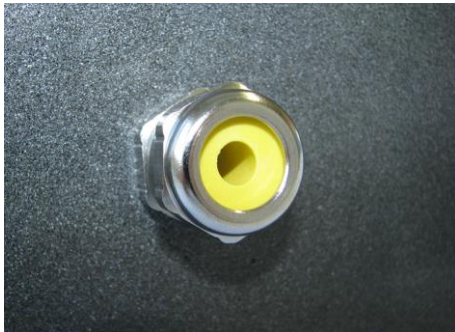

Fig. 23: Cable gland type "A"
1. Insert the cable glands type "A" (Fig. 23, M20x1.5) into the drillings from the first to the last cylinder. One cable gland inside and one cable gland outside of the engine wall!